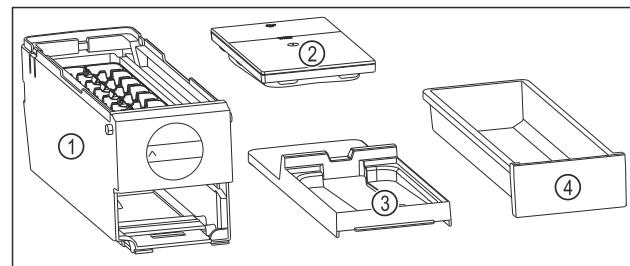

Fig. 167 Components of the EasyTwist-Ice
► EasyTwist-Ice is disassembled in four parts. (see Fig. 167)
- Only disassemble the EasyTwist-Ice into the illustrated components. (see Fig. 167)
- Clean the EasyTwist-Ice body Fig. 167 (1) as a complete unit.